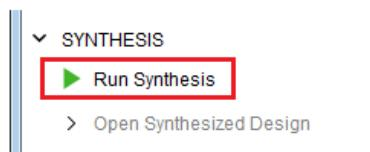

Figure 6.6: Run Synthesis command
2. In the Vivado **Flow Navigator**, click **Run Synthesis** command (**Synthesis** option) and wait for task to be completed, see Figure 6.6.